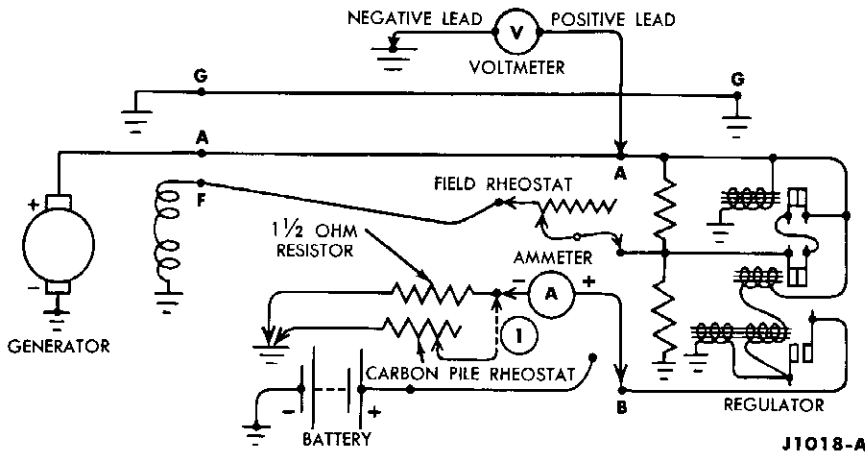

FIG. 17—Regulator Test Schematic
The four tests presented here are outlined for on-the-car operation and should be conducted in the sequence indicated. Be sure that the regulator is at "normal" operating temperature (equivalent to the temperature after 30 minutes of operation on the vehicle with 10 ampere load). Connect the test equipment as shown in Figs. 17 and 18.
Connect the carbon pile rheostat across the 1/2-ohm resistor, (connection marked ① Figs. 17 and 18). With the engine speed at 1500 rpm, slowly decrease the resistance of the rheostat until the voltmeter reading drops to 13 volts. The ammeter will indicate the setting of the current limiter.